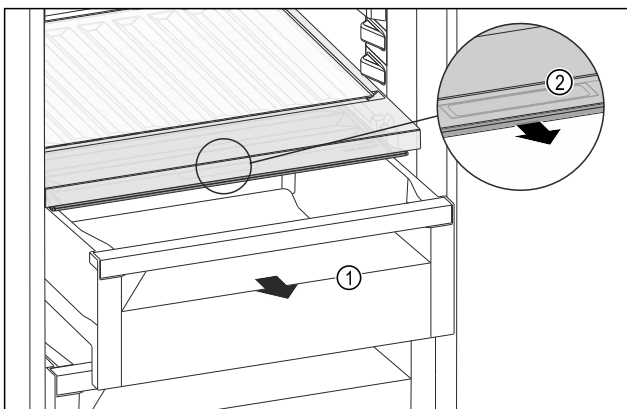

Fig. 228
- ▶ Pull out the drawer Fig. 228 (1).